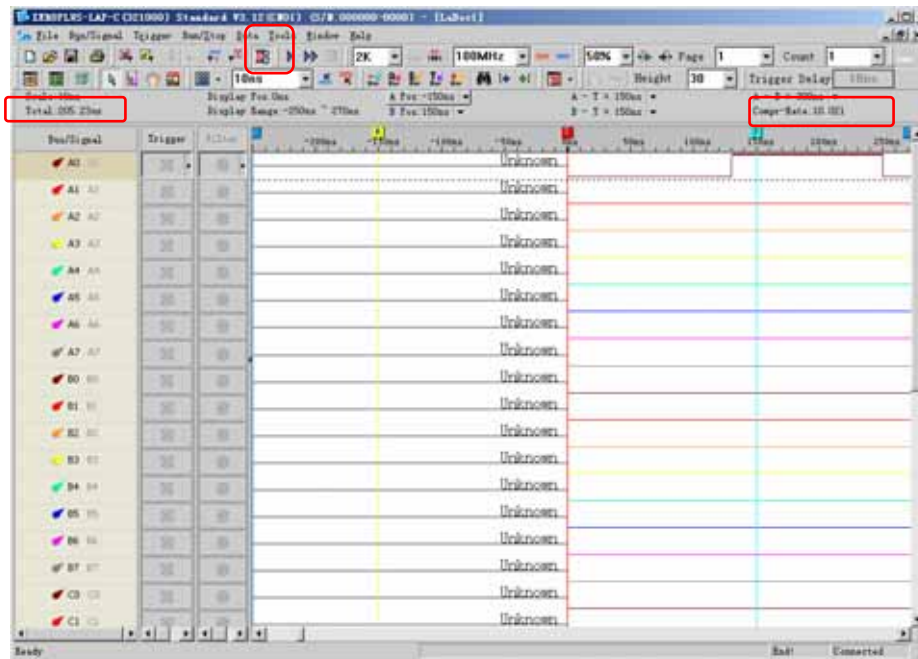

Fig 4-138 – Before and After Compression
- Step4.** Click **Run**, and then activate the signal from the tested circuit to acquire the result on the waveform display area. Fig 4-138 shows the result before and after compression has been applied.